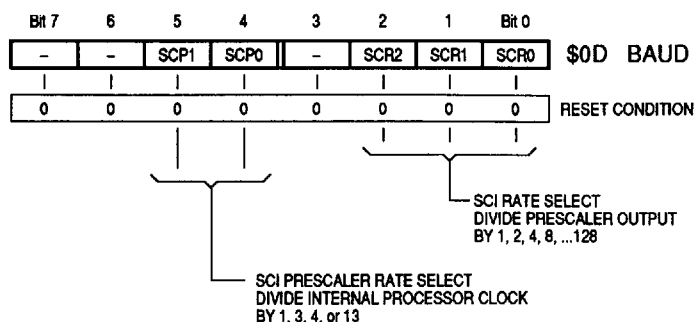

Figure 3-17. Baud Rate Register
3.6.3.1 BAUD RATE REGISTER (BAUD). The BAUD register (see Figure 3-17) is used to select the baud rate for the SCI system. Both the transmitter and receiver use the same data format and baud rate, which is derived from the MCU bus rate clock. The SCP1–SCP0 bits function as a prescaler for the SCR2–SCR0 bits. Together, these five bits provide multiple baud rate combinations for a given crystal frequency.